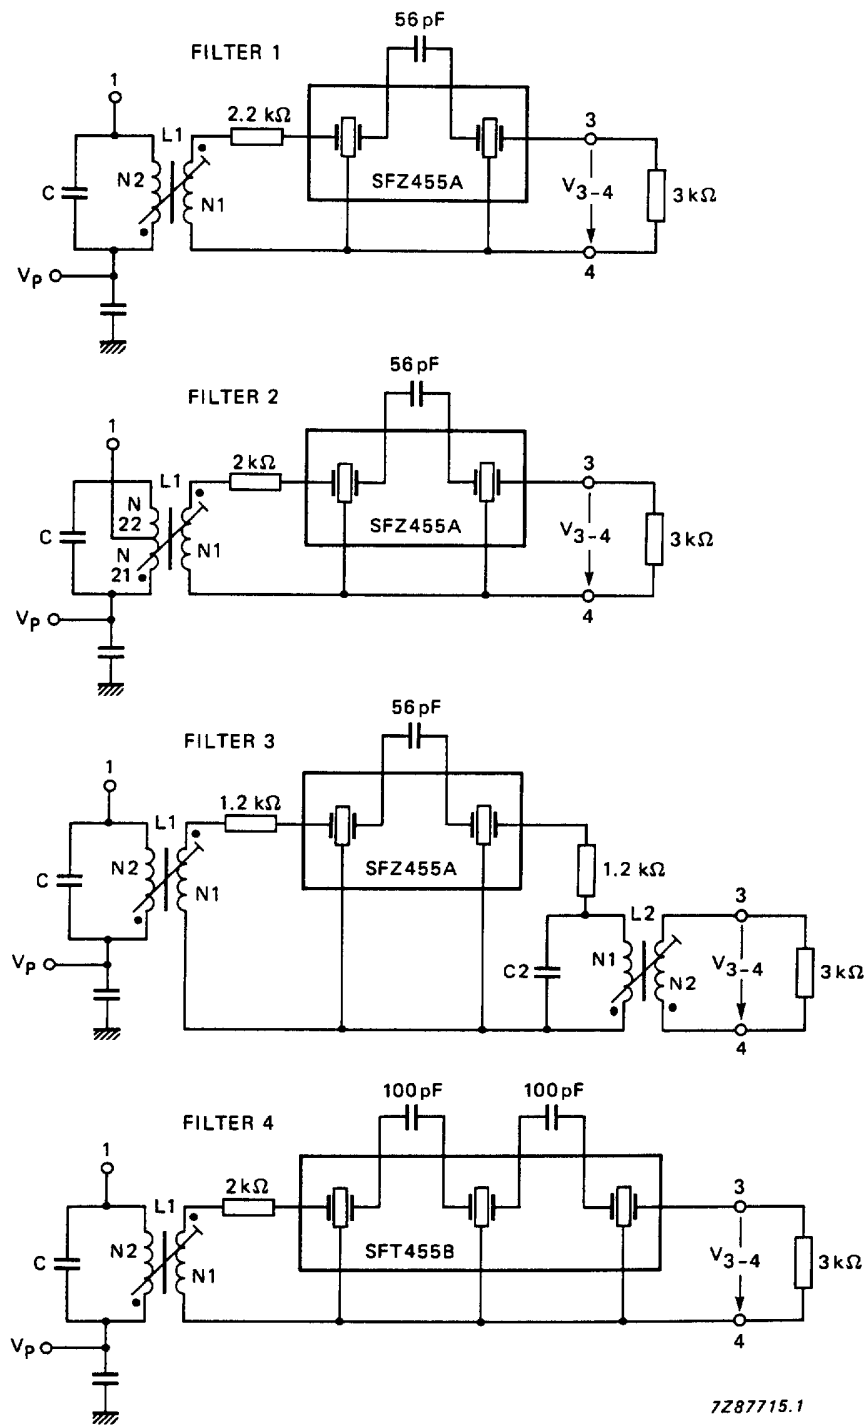
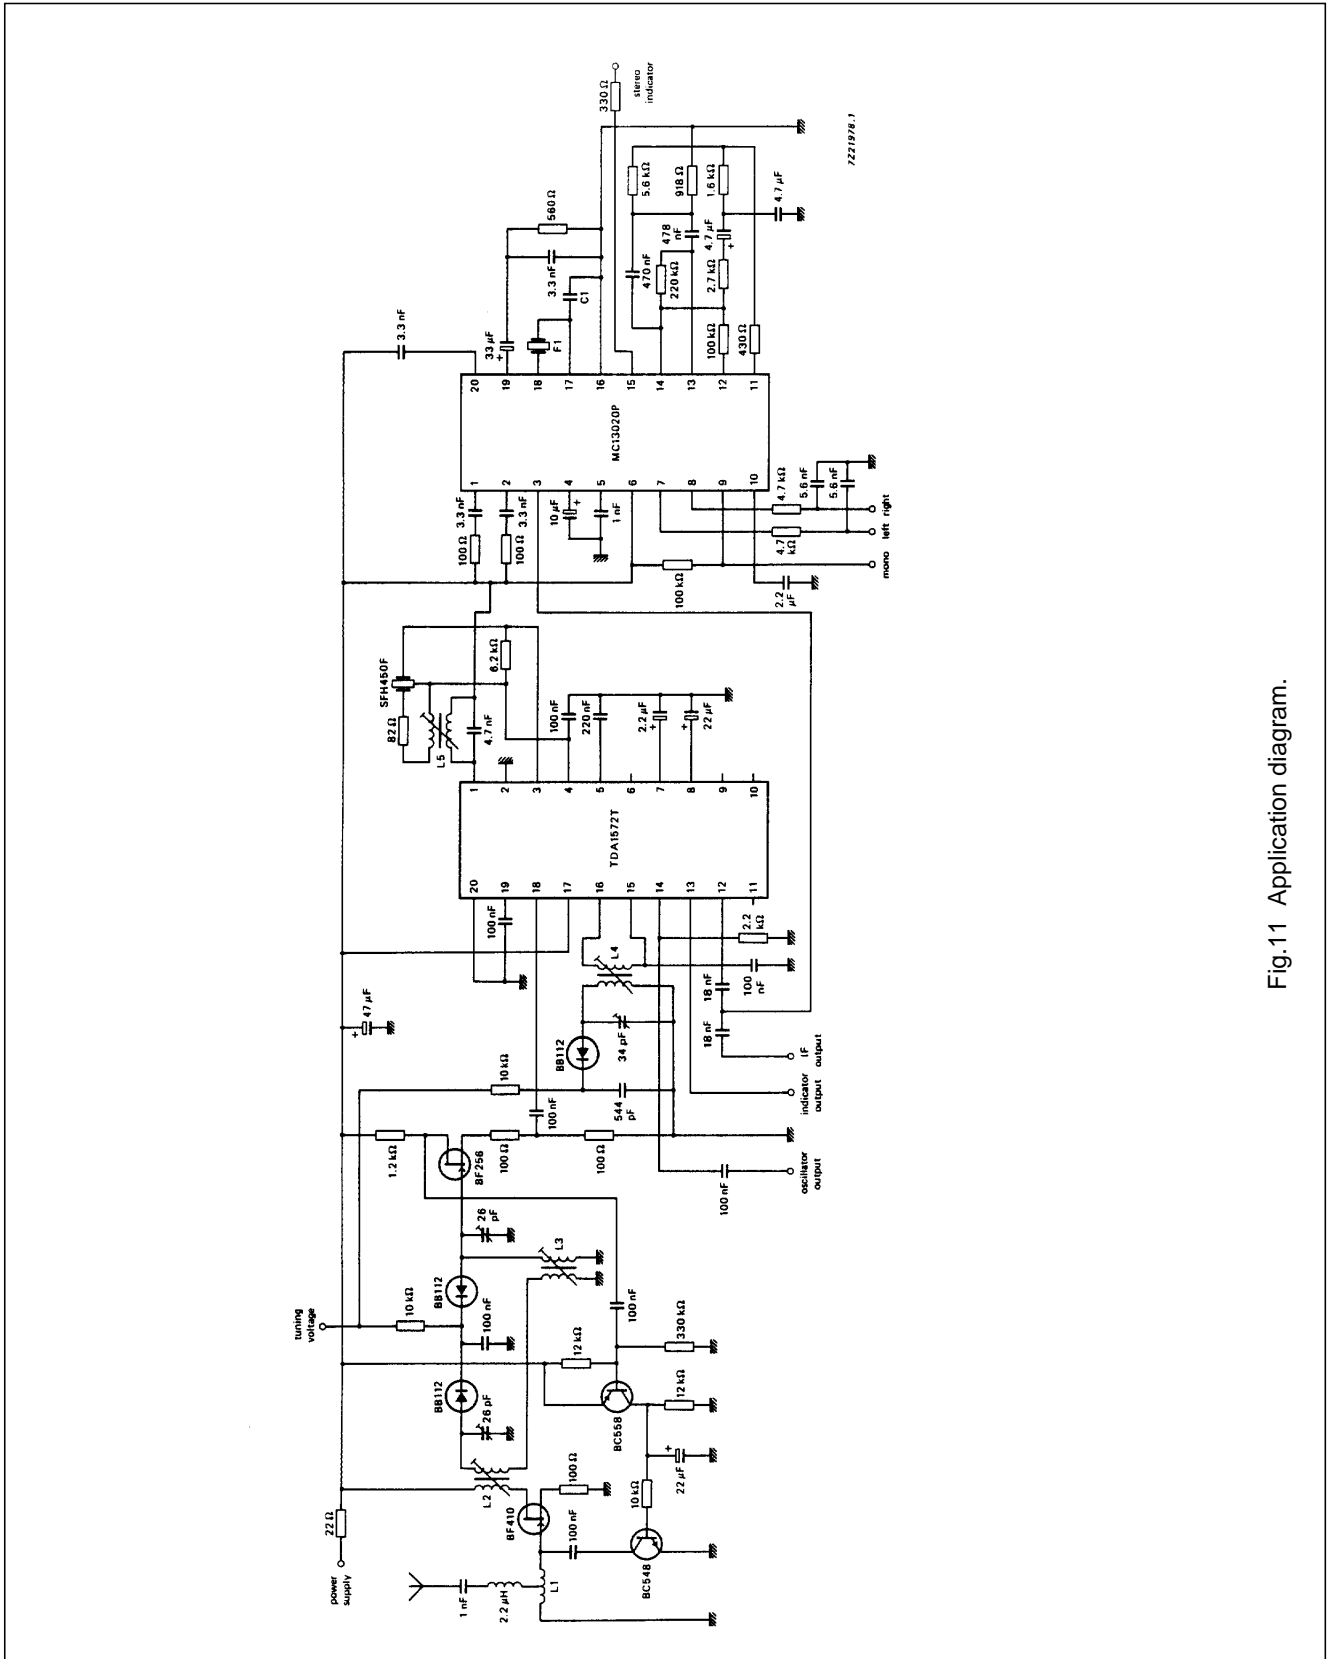

Fig.10 IF filter variants applied to the circuit of Fig.1. For filter data, refer to Table 1.
Fig.11 Application diagram.
**Table 1** Data for IF filters shown in Fig.10 (Filter 1 to 4) and Fig.11 (Filter 5). Criteria for adjustment is IF = maximum (optimum selectivity curve at centre frequency  $f_0 = 455$  kHz). Filter 5 is used for AM stereo application with centre frequency  $f_0 = 450$  kHz.